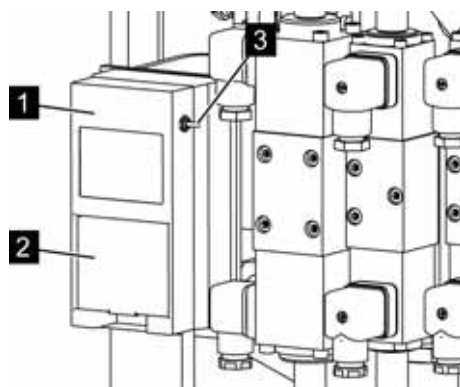

Fig. 81: Charging station
4. ➔ Remove the charged battery (Fig. 81/2) from the charging station (Fig. 81/1) and insert the empty battery. Make sure that the toggle switch (Fig. 81/3) is in the 'on' position.
*In case of longer downtime, switch the charging device (toggle switch Fig. 81/3) to the 'off' position so that the machine's main battery will not discharge.*